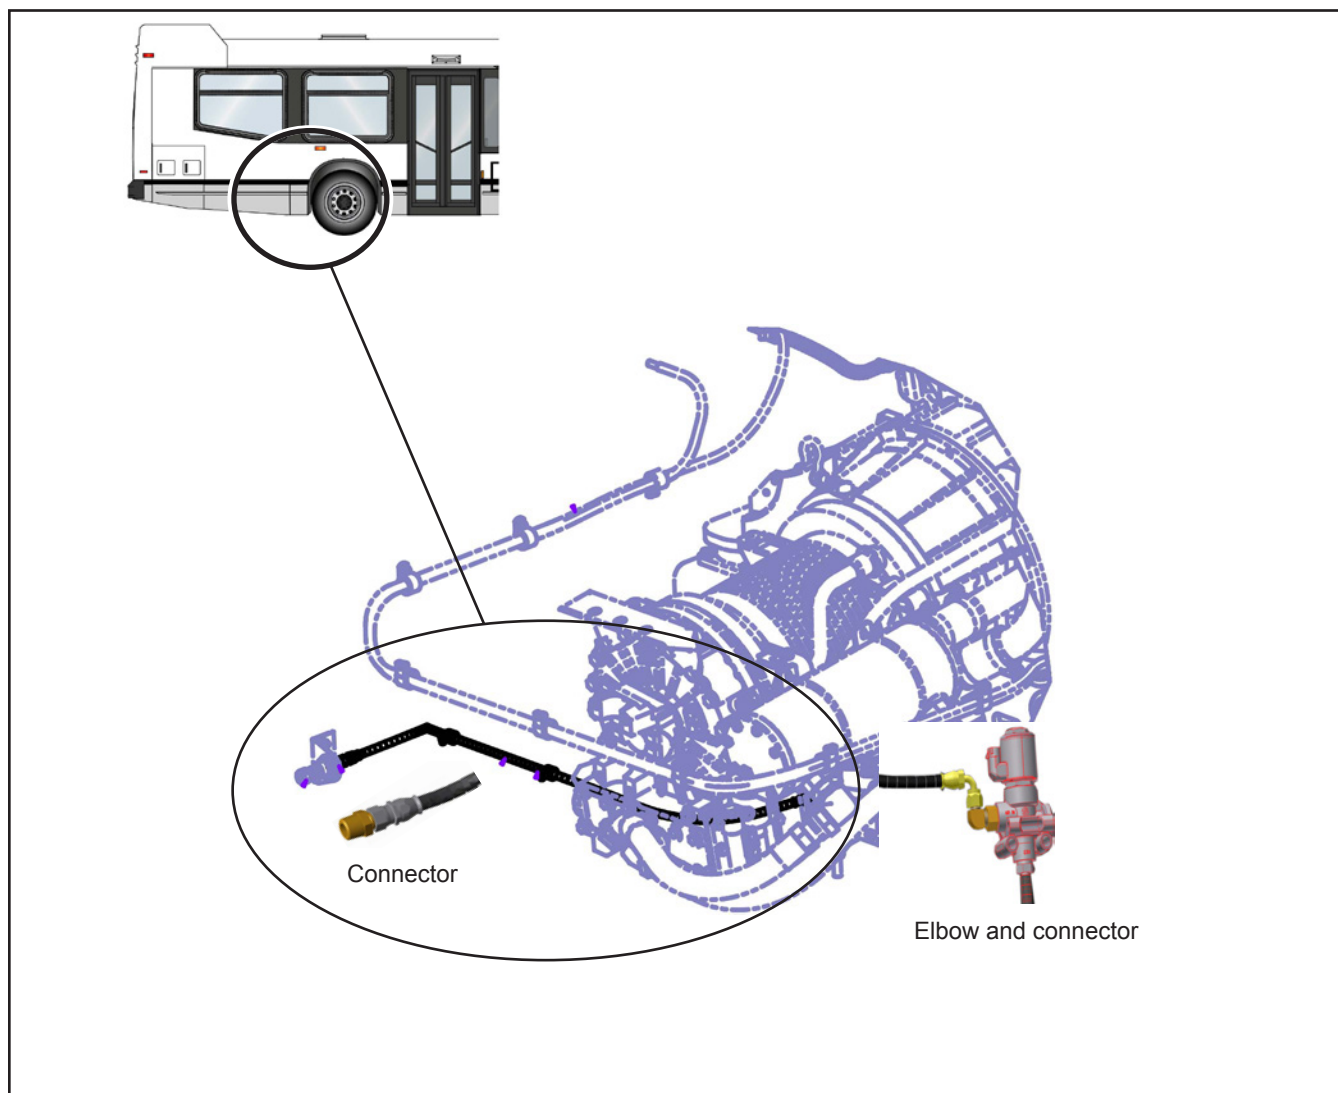

Figure 1 - Retarder Air Line Assembly Location
1.1. Locate the retarder air line assembly. See Figure 1.